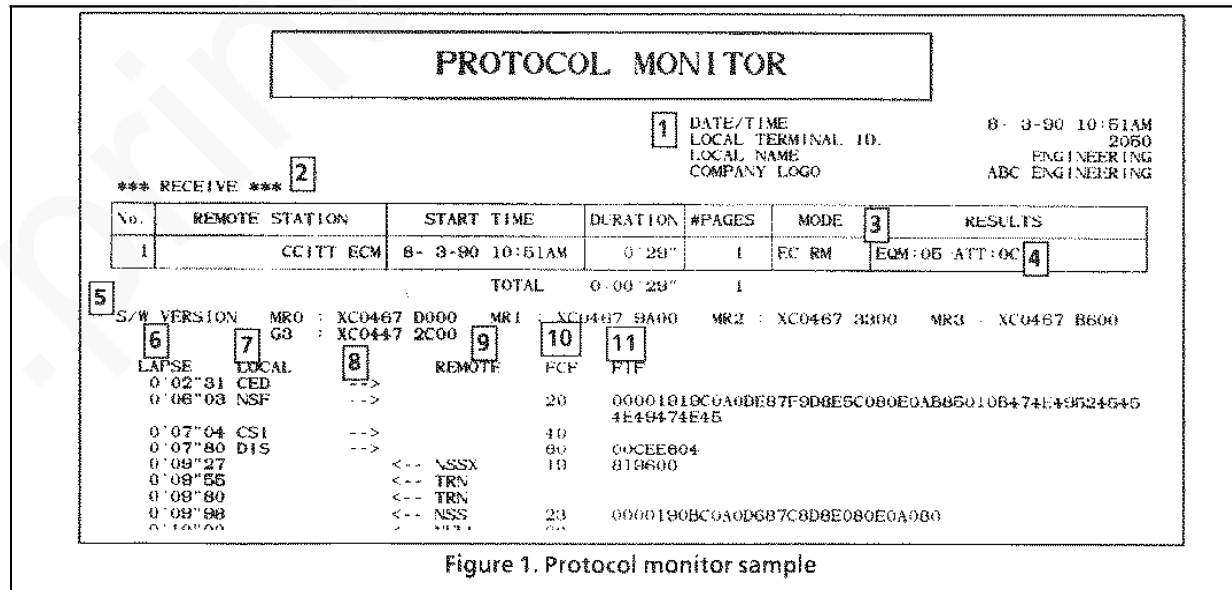

Figure 1. Protocol monitor sample
4. Protocol monitor sample legend. (See Figure 1.)